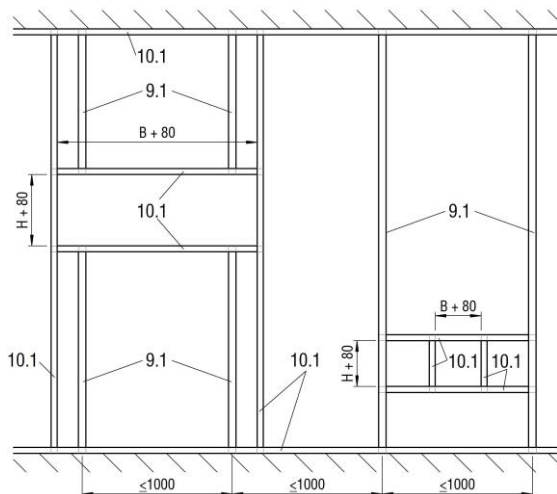

Figure 35: Metal posts with required exchange parts for wet installation (shaft wall)
- Mount the metal posts and the wall in accordance with the specifications of the wall manufacturer and the required spare parts as shown in Figure 35.
- Prepare the wall panelling (pos. 12.1) and doubling (pos. 49.5) as well as the installation opening for the installation of the BKA-Ü.
- If required, mount a filling stop on the non-operating side of BKA-Ü (pos. 1) (must not be screwed to the housing of BKA-Ü!). The filling stop is not required by fire protection regulations).
- Carry out the joint filling with the jointing material of the wall (pos. 43, gap completely filled with plaster). The connection and butt joints of the doubling must also be filled with the jointing material of the wall.